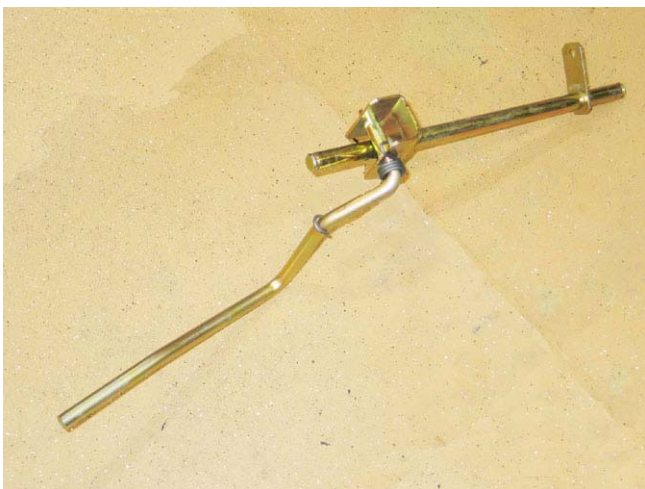

Figure 6.13
7. The cross shaft, control lever, and torsion spring can be disassembled on the bench. See Figure 6.13.